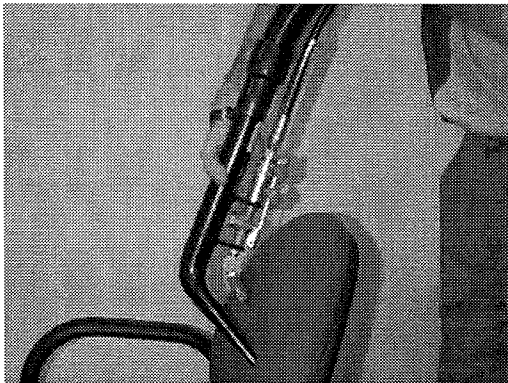

FIG. 8
5. Begin operating accessory tool (Figure 8).